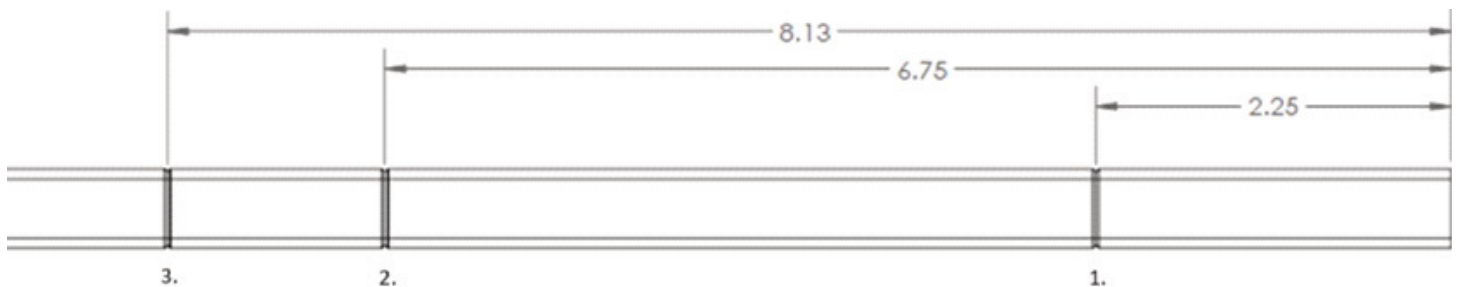

FIGURE 2
3. The liquid withdrawal tube (the longer of the two plastic tubes) has 3 scores (Figure 2)